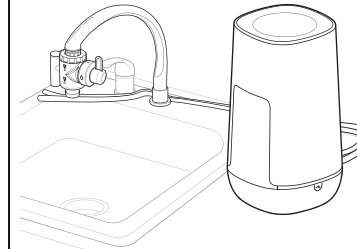

Figure 3.18 – Routing Tubing to Diverter
6. Position the Tupperware Nano Nature Water Filtration System Gen II with the display facing forward. Route the tubing to the faucet-mounted diverter, removing twists or kinks in the tubing (see Figure 3.18).